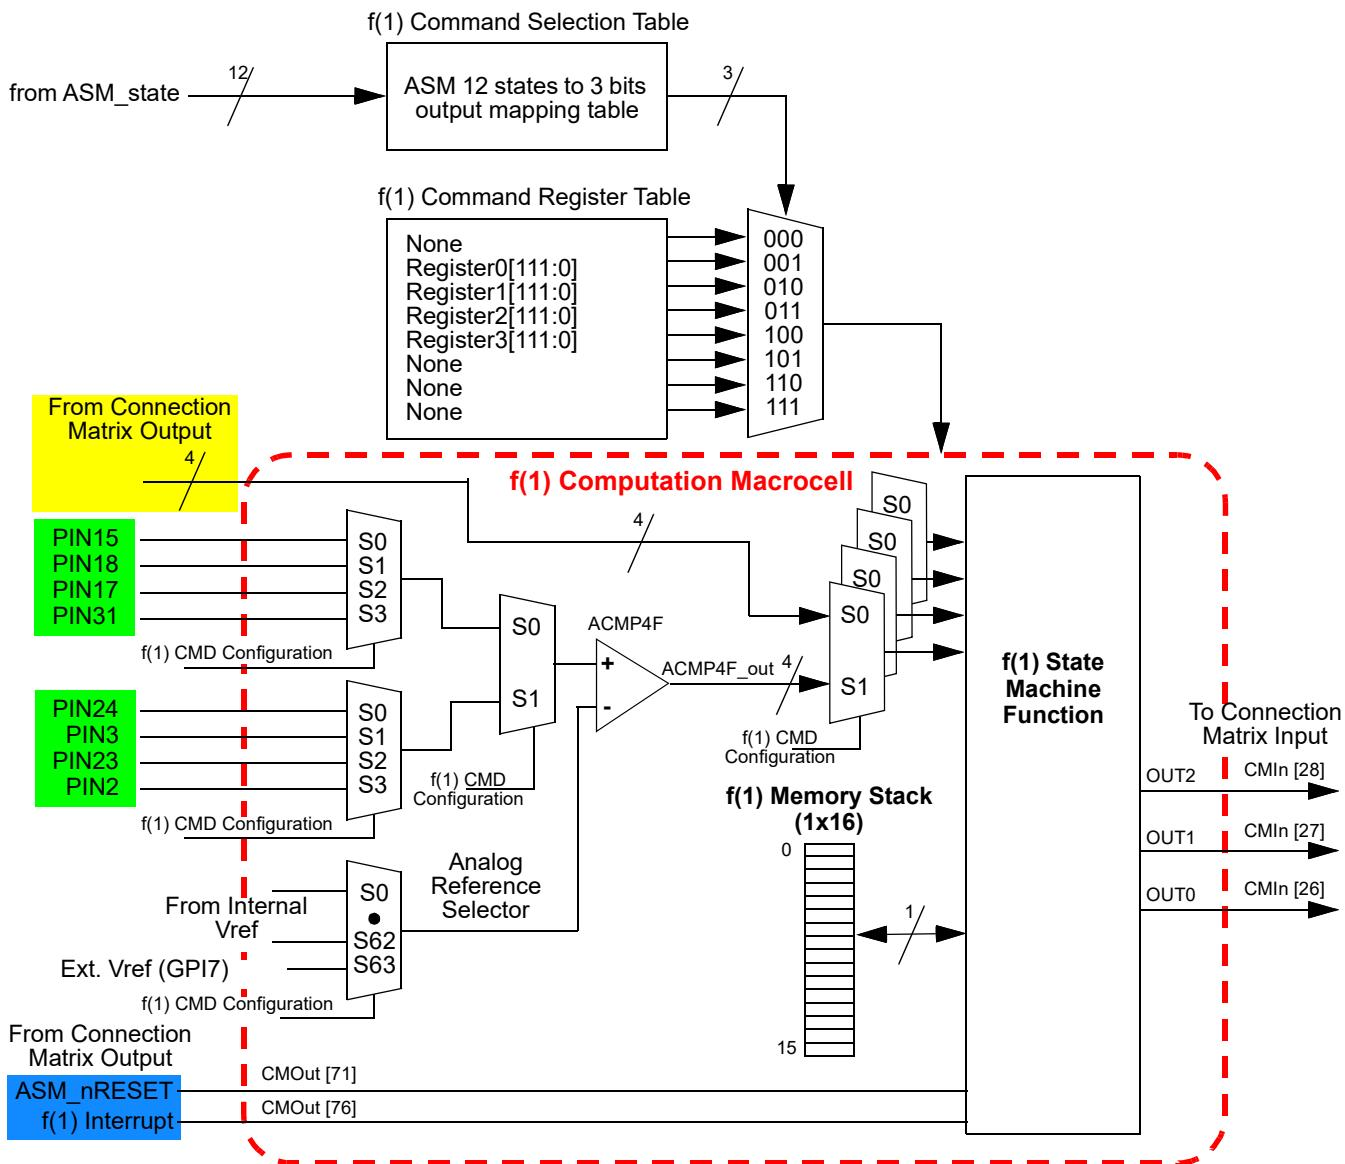

Figure 118: f(1) Computation Macrocell Input Signals
17.3 F(1) COMPUTATION MACROCELL INPUT SIGNALS
The f(1) Computation Macrocell has 6 digital input signals, `ASM_nReset`, `f1_Interrupt`, and four inputs from Connection Matrix outputs. An active signal on either of the first 2 inputs will immediately halt any command execution for the f(1) Computation Macrocell, and will immediately relinquish control back to the ASM macrocell. The `ASM_nReset` is a level sensitive signal, and active low. The `f1_Interrupt` is a level sensitive signal, and active high. These signals are shown in Figure 118, highlighted in blue. Also there are 4 digital inputs from the Connection Matrix, which can be routed to any Connection Matrix outputs from the f(1) Commands. These signals are shown on Figure 118, highlighted in yellow.